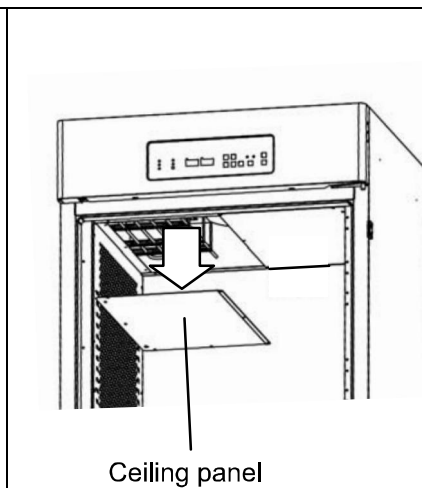

Fig. 2
3. Remove screws of the ceiling panel consisting of two panels and remove them. See Fig.2.